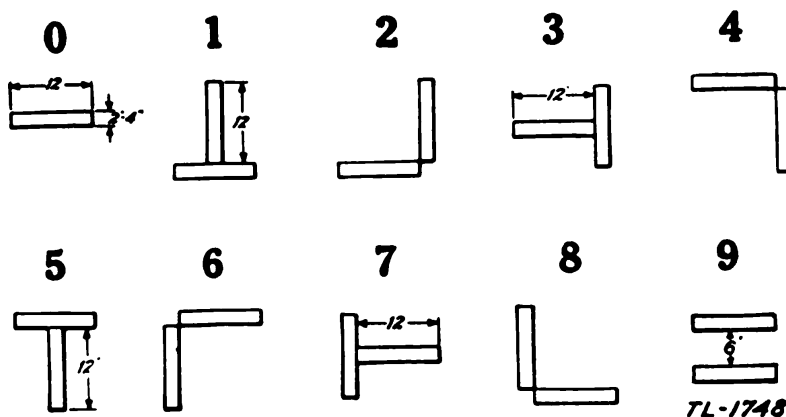

FIGURE 128.—Panel numerals.
(1) Air-ground liaison code, which is subject to frequent change for purposes of safety.
(2) Fire control code, which is standard. Operators of a panel section must memorize panel numerals in figure 128 for use in codes.